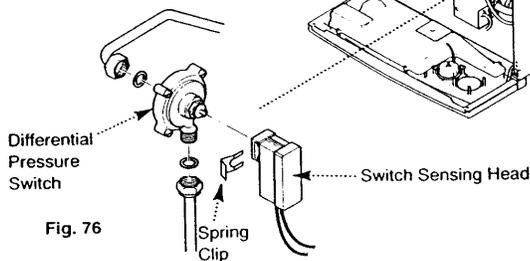

Fig. 76
11.17 Differential Pressure Switch (Fig. 76)